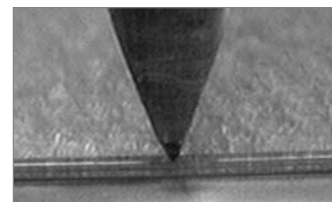

FIGURE 1 Cleaving tool in proper position
- 1) Place the tubing to be cut on a flat, clean surface and position the cleaving tool perpendicular to the tubing surface, as shown in Figure 1. The long axis of the blade should be perpendicular to the tubing bore.